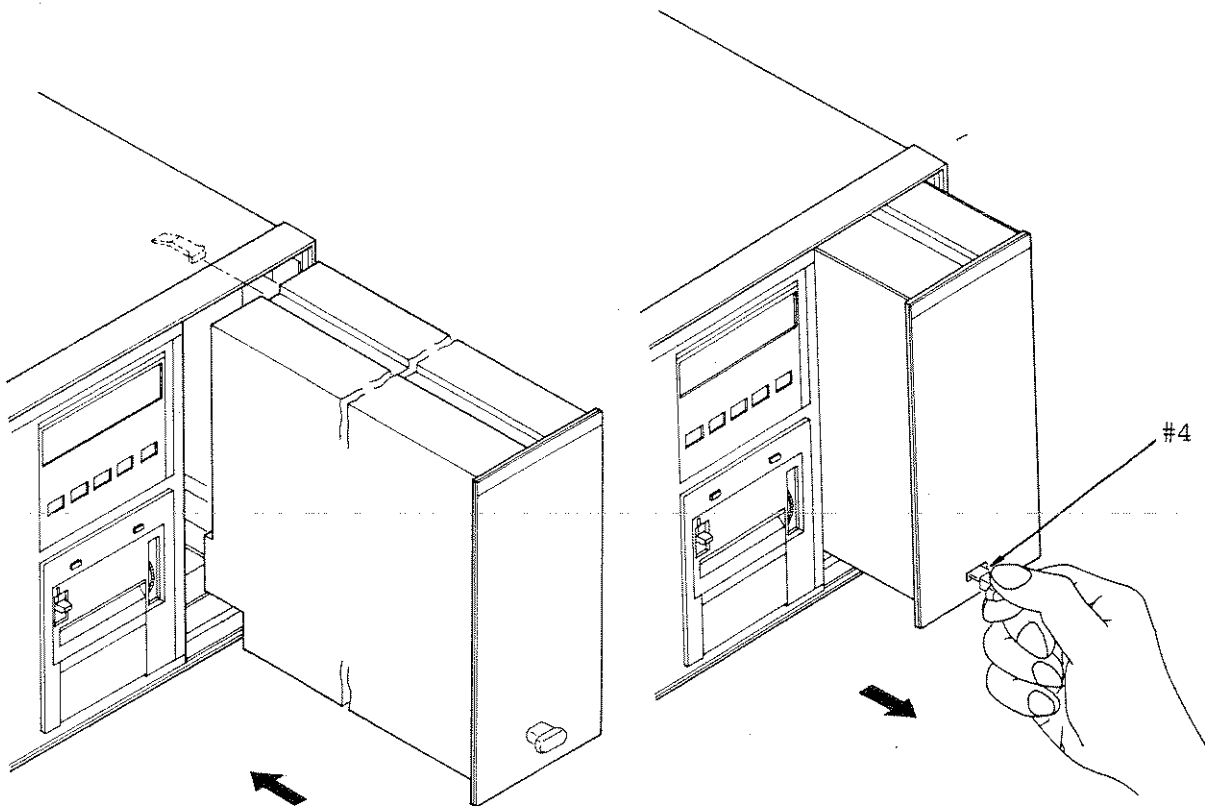

Fig. 3-6 Mounting and Demounting the Unit
3. To mount a unit in the ME522A transmitter or receiver, align the groove on the unit top cover with the mainframe guide mould as shown in Fig. 3-6, and push the unit straight into the mainframe compartment until a click is heard.